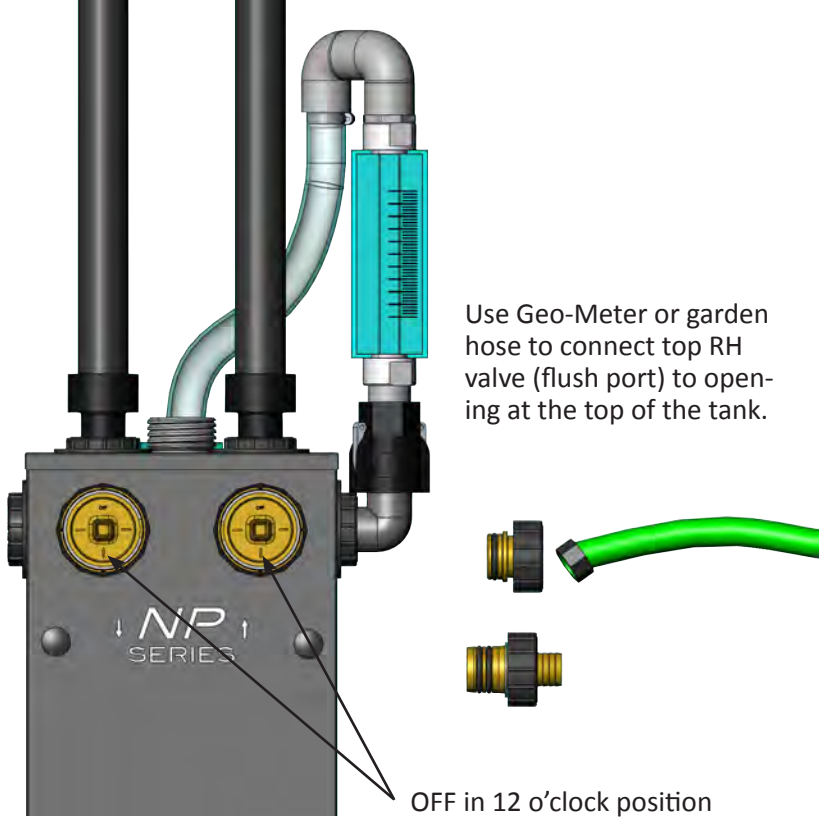

Figure 22: Isolating loop
2. Install a hose from the upper right valve and direct it into the top of the tank using a Flo-Link adapter (such as a garden hose adapter or hose barb). Alternatively, the Geo-Meter tool may be used. Rotate OFF on both upper valves to the 12 o'clock position to isolate the ground loop. (Figure 22).